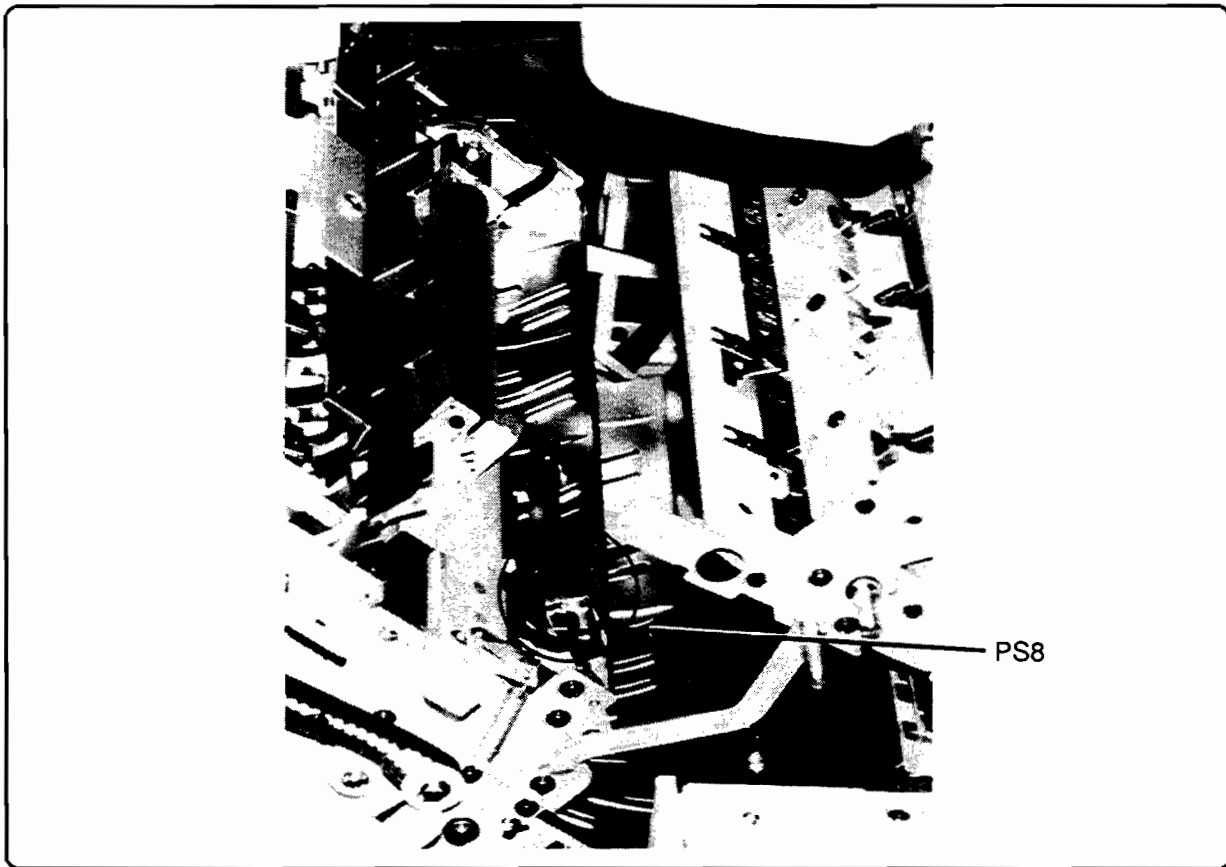

Figure 4-26. Stacker-PS8
12. Blow paper dust out of the Duplex Inlet Sensor, Stacker-PS8 (P/N FH7-7023-000CN) with compressed air (Figure 4-26).